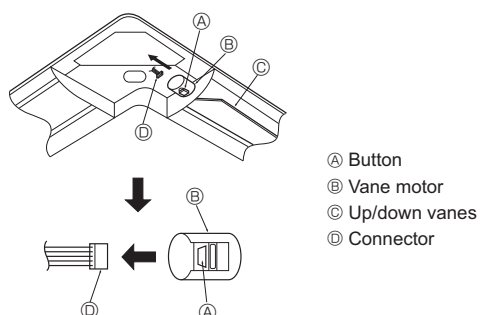

Fig. 5-11
- Take the lead wires CN4Y (white) and CN6Y (red) of the i-see sensor corner panel ⑦ from the side of the electrical box on the unit and make sure to connect them to the connector of the controller board.
- Lead wires of the i-see sensor corner panel ⑦ should be fixed at the rib of the grille with the fastener ④ so that there is no slack.
- Lead wires should be held together with the lead wires of the unit and fixed with 2 of the fastener ④ so that there is no slack.
- * The i-see sensor corner panel should be fixed onto the grille ① with screw ⑥.
5.7. Locking the up/down airflow direction (Fig. 5-11)